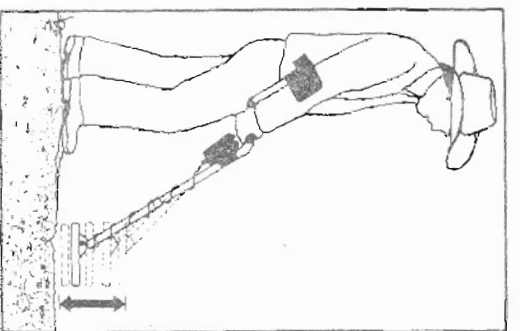

Figure 4. Automatic Ground Balancing (AGB) procedure.
- 5 To rapidly Ground Balance, hold the RESET switch in the "Up" position while continually raising and lowering the coil between 3 and 10 cm above the ground (Fig. 4), or higher on exceptionally hot ground. Initially, you will hear a signal each time the coil moves in a particular direction. After a few moments, the sound will diminish with each movement until it almost vanishes. You have just **Automatically Ground Balanced** the detector to reject ground noises at that spot. Release the RESET switch. If step 5 is not carried out, the machine will still automatically ground balance with use, after a few seconds.